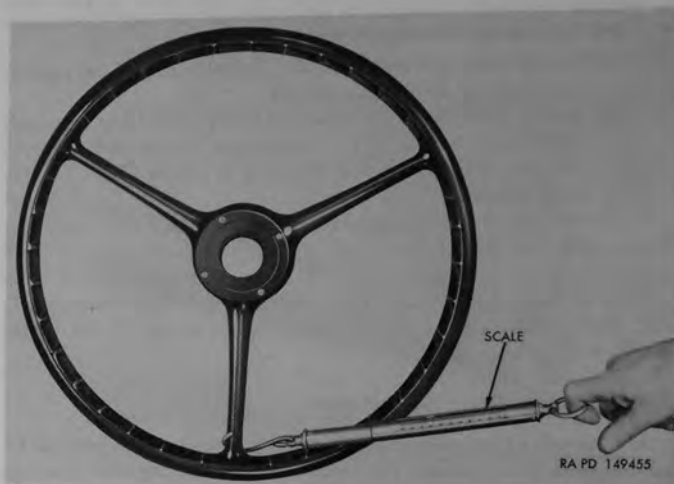

Figure 201. Use of scale 41-S-503 on steering wheel to check pull.
- (2) Turn steering wheel gently until mechanism has reached one extreme. Turn wheel back one full turn. With scale 41-S-503 on spoke of steering wheel (fig. 201), measure pull required to keep wheel moving. Pull on scale should be made at right angle to wheel spoke.
- (3) If pull is not within the limits of $1\frac{1}{2}$ to 2 pounds, shaft bearings must be adjusted.